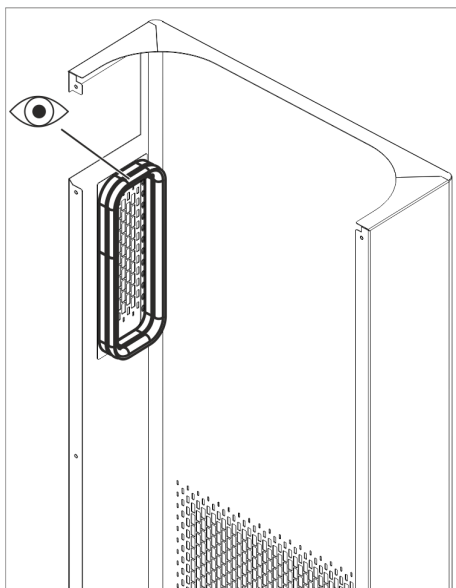

Fig. 80: Checking the gasket on the air socket
- Check the gasket on the air socket for damage (see Fig. 80). If you notice any damage, do not operate the device and contact LAUDA Service.